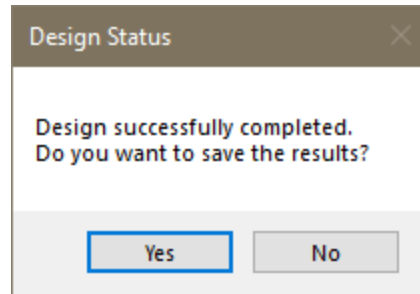

Figure 8-78
- Click on *Floor Design* → *Section Design* and click on the *Design the Sections* icon. The program will start to perform the design of the sections. When completed you should see a window as shown in **FIGURE 8-78**.